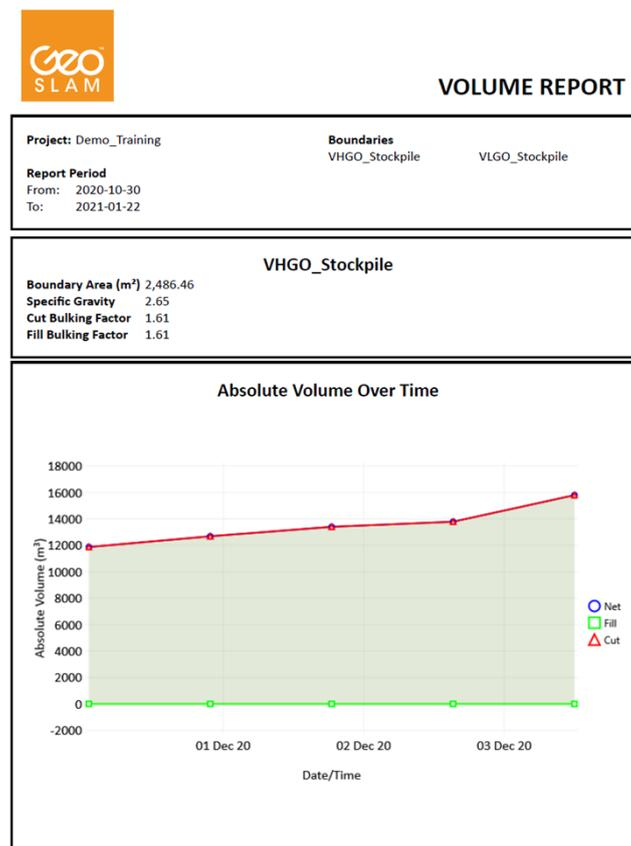

Figure 95. Example Volume Report.
9. Select -> **Preview**, to view a preview of the report (Figure 95). The report will include as a minimum: